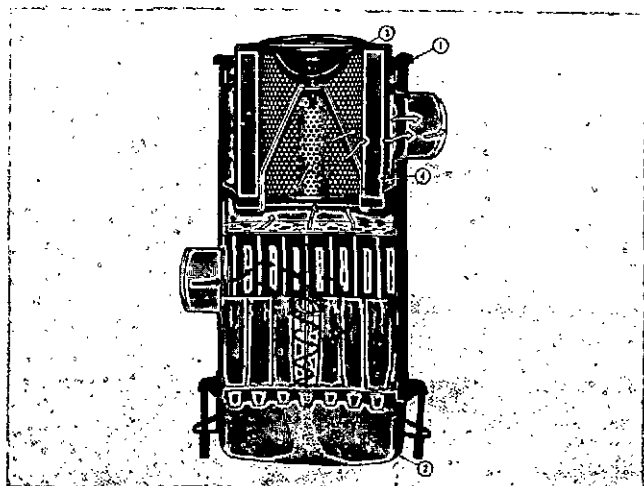
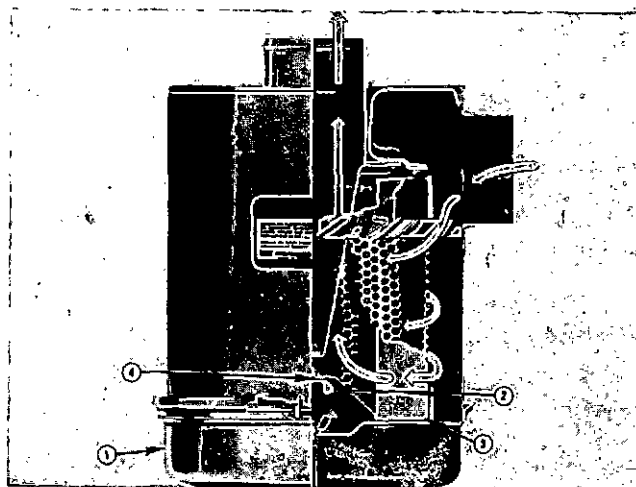

Fig. 5-12, V11004. Air cleaner - Donalclon type
Fig. 5-13, V11005. Air cleaner - Cyclopac type
1. Loosen clamps and remove cover (1, Fig. 5-13).
2. Unscrew wing bolt holding inner cover and element (3, Fig. 5-12) (4, Fig. 5-13) in position; remove element carefully so that loose dirt will not fall into chamber (2, Fig. 5-12) (3, Fig. 5-13).
3. Remove dust cup (1, Fig. 5-12) (2, Fig. 5-13) and clean.
13. Be sure gasket washer (4, Fig. 5-12) is in place under wingnut before tightening.